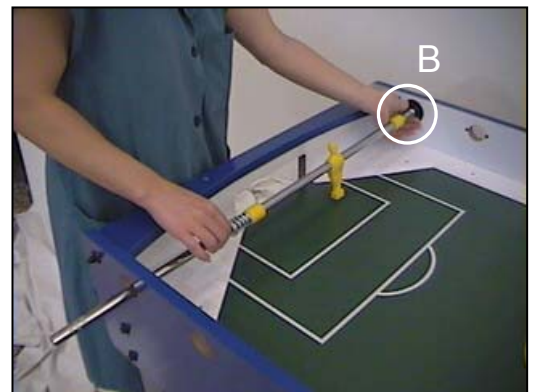

fig. 6
Insert the rods by passing the ridged (handle) ends (A) through the holes in the cabinet (fig.5). Insert each end stop bush (B) into its housing (fig.6).